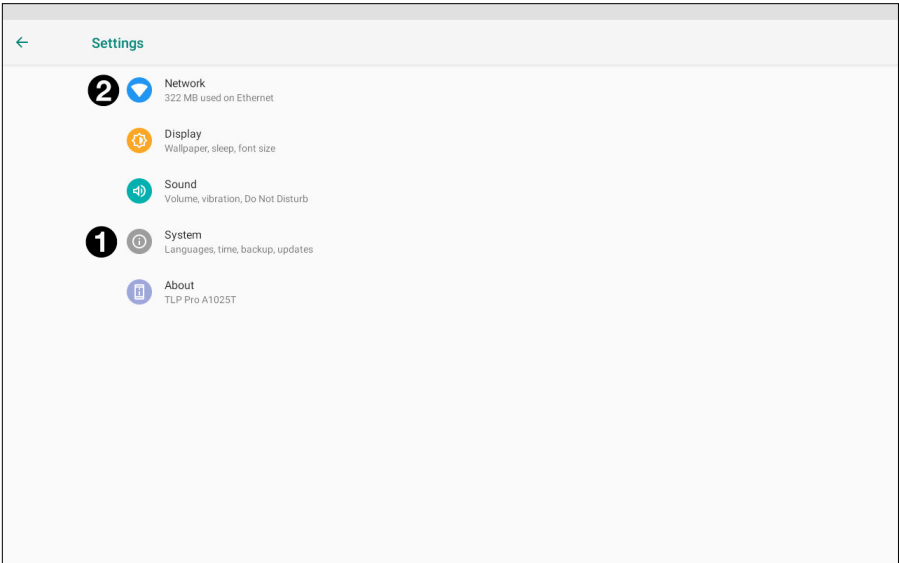

Figure 8. Settings Menu
4. Click **System** (see figure 8, ❶).
7. Return to the Settings page and click **Network** (see figure 8, ②, on the previous page).